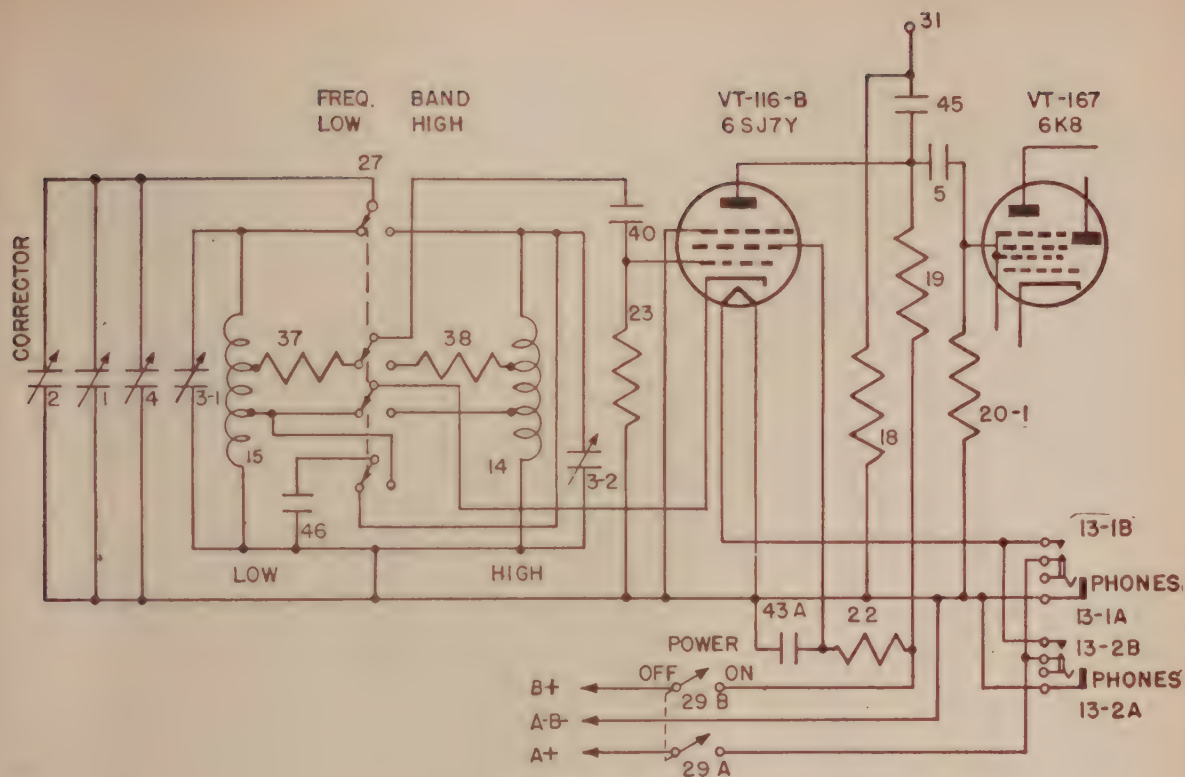

Figure 57. Frequency Meter BC-221-M, functional diagram, variable frequency oscillator circuit.
Tube VT-116-B (6SJ7Y) is used in an electron coupled circuit as the variable frequency oscillator. (See figs. 57, 58, and 59.)
b. BAND SELECTOR SWITCH. (1) In Frequency Meter BC-221-M, the band selector switch 27 is a double-throw, four-pole switch. (See fig. 57.)
d. TRIMMING CAPACITORS. The trimming capacitors are parts 3-1 and 3-2 (parts 3-1a and 3-2a in the BC-221-AC). These are equipped with thermal compensator capacitors, parts 4 and 46 in the BC-221-O and BC-221-R, and parts 3-1b and 3-2b in the BC-221-AC. In the BC-221-M, thermal compensator capacitor 4 is connected directly across the main tuning capacitor 1 and compensates for either frequency range. Part 46, in this case, is used to detune the coil not in use in order to prevent interaction between the two coils. This arrangement (fig. 57) should be studied with care. The trimming capacitors are adjusted at the factory to build up the fixed capacitance of the LOW and HIGH frequency circuits to the exact values called for by the design of the variable tuning capacitor.